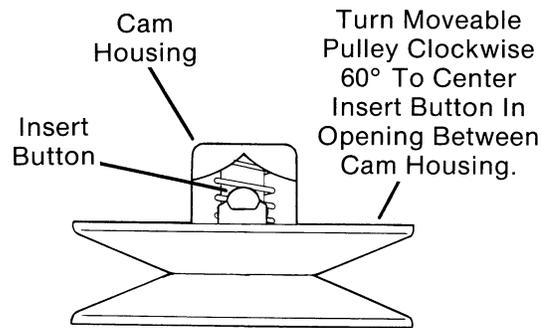

FIG. 19
- B. Rotate inside half of “driven” pulley clockwise about 60° against spring tension and hold pulley in this position. Buttons are now positioned between cam surfaces for servicing. (Fig. 19)
- D. Lubricate all cam surfaces and insert buttons with Molybdenum Disulfided grease. Oil shaft surface and moveable sheave bushing using 2-3 drops SAE #30 wt. oil. **IMPORTANT: DO NOT DROP OIL ON BELT OR “V” PULLEY SURFACES. WIPE UP ALL SPILLS COMPLETELY.** (Fig. 19) Replace drive belt and rear belt guard.